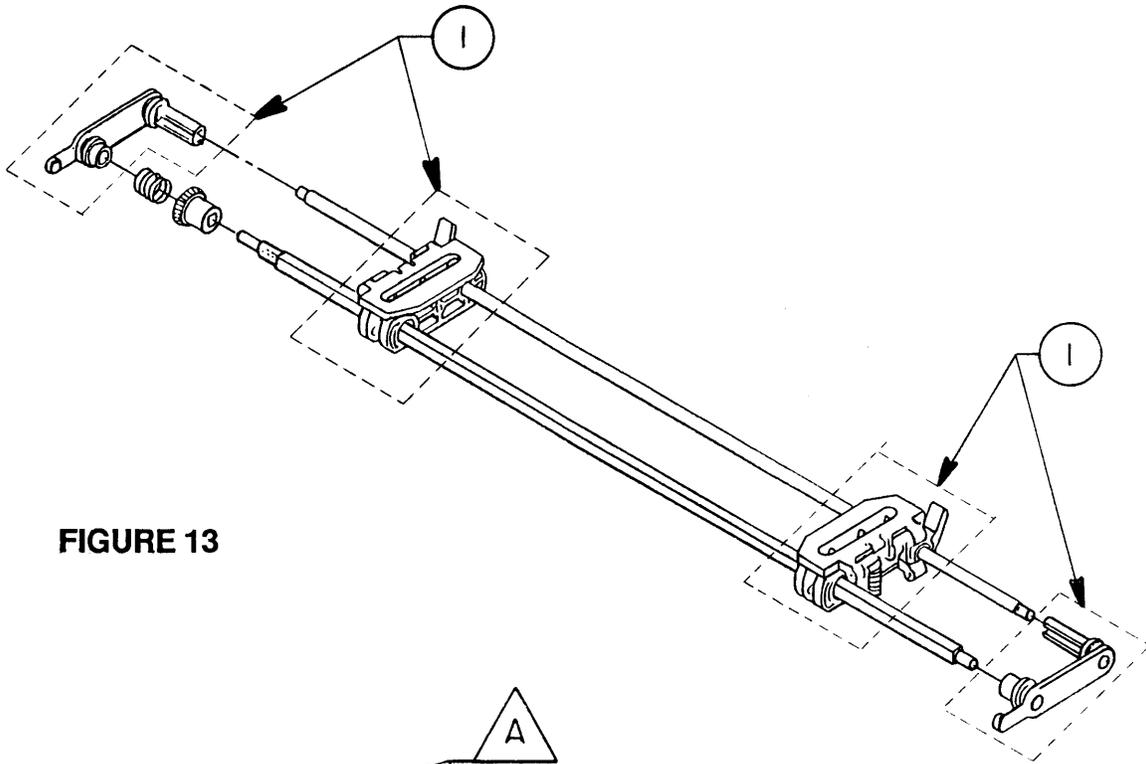

FIGURE 13
□ TRACTOR ASSEMBLY (Figure 13)